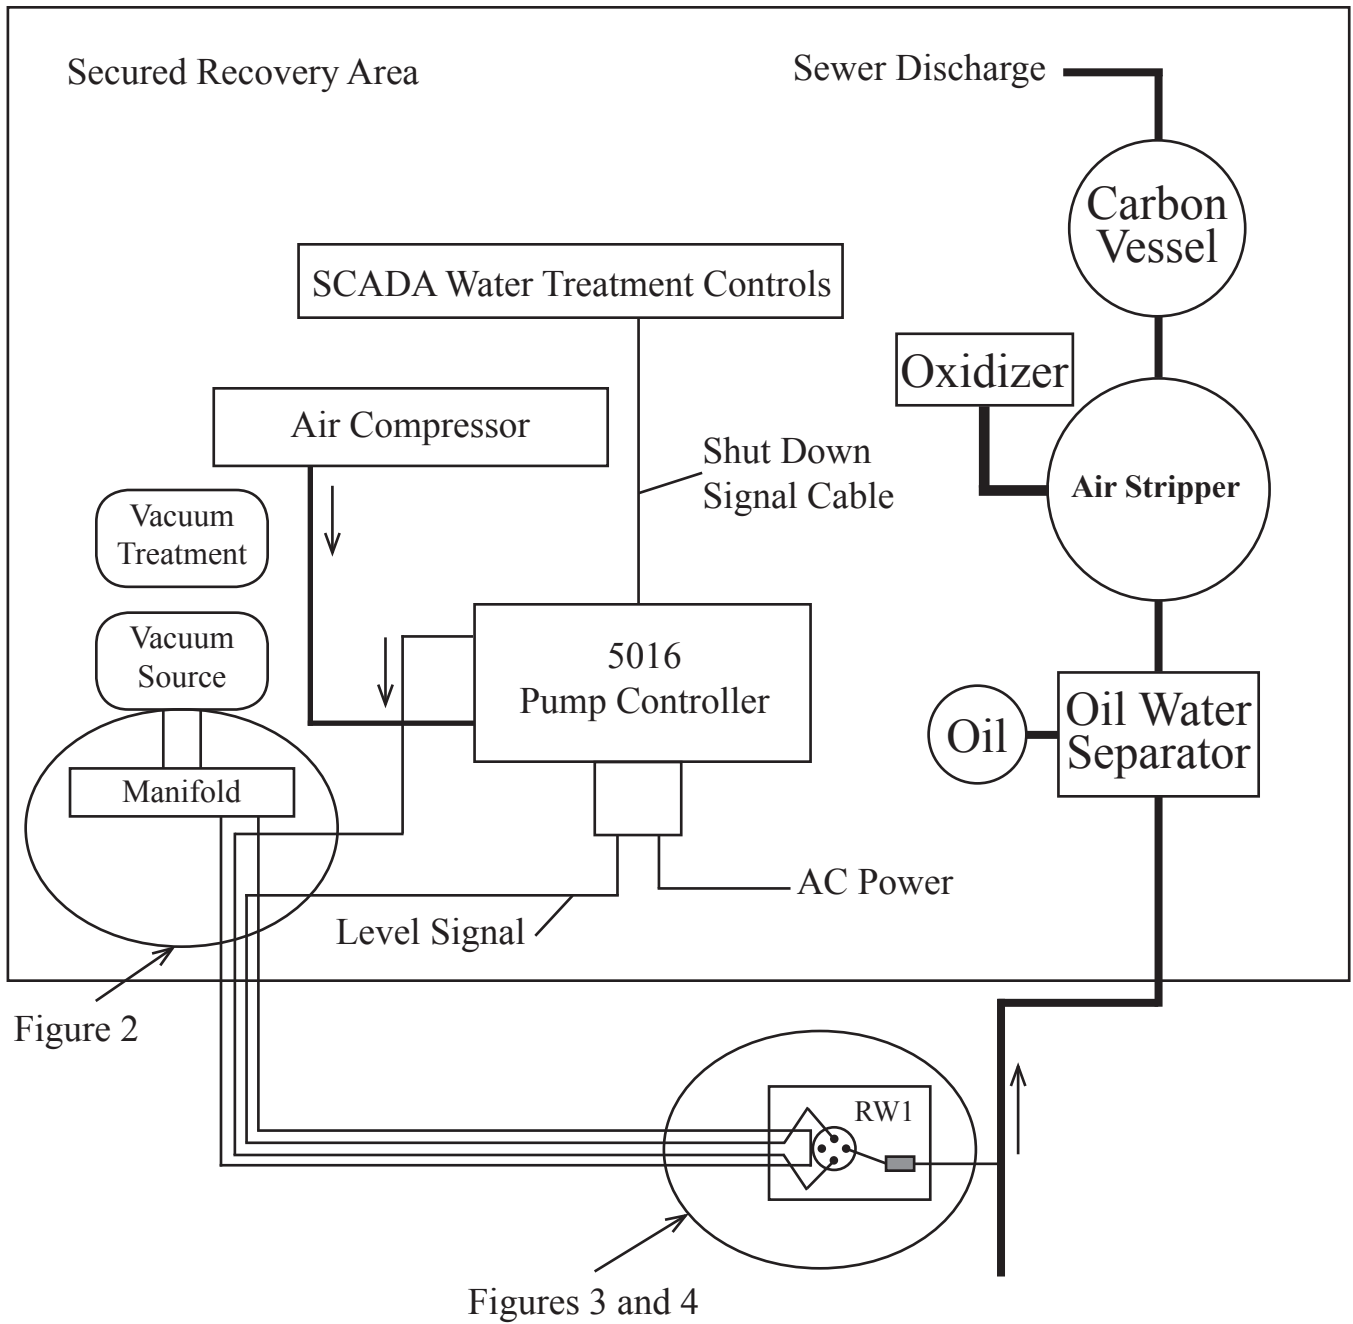
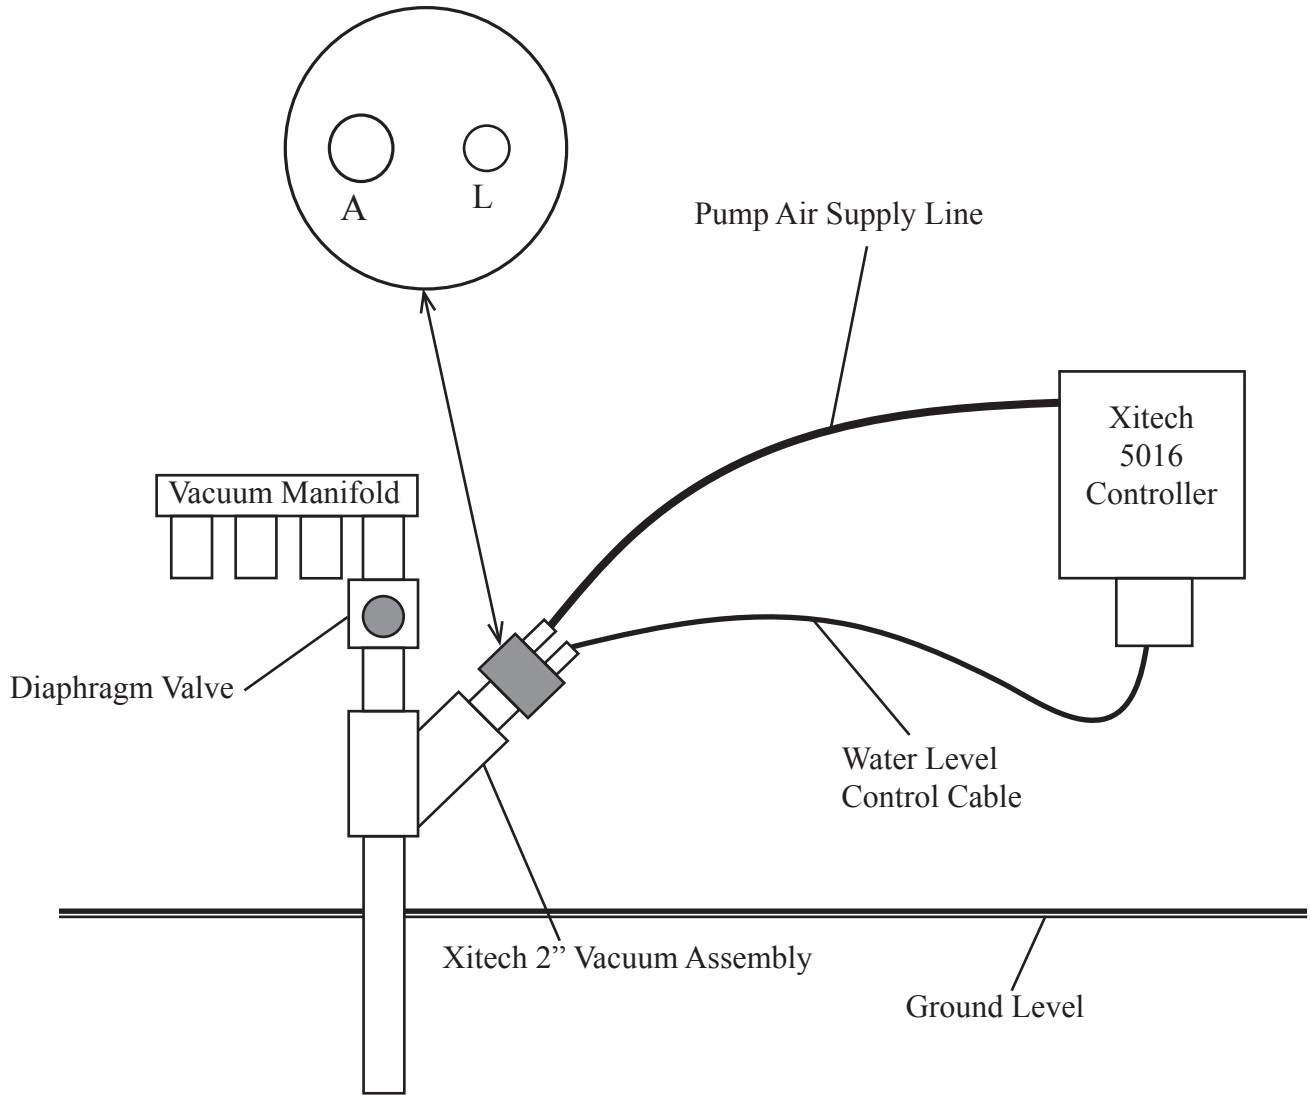
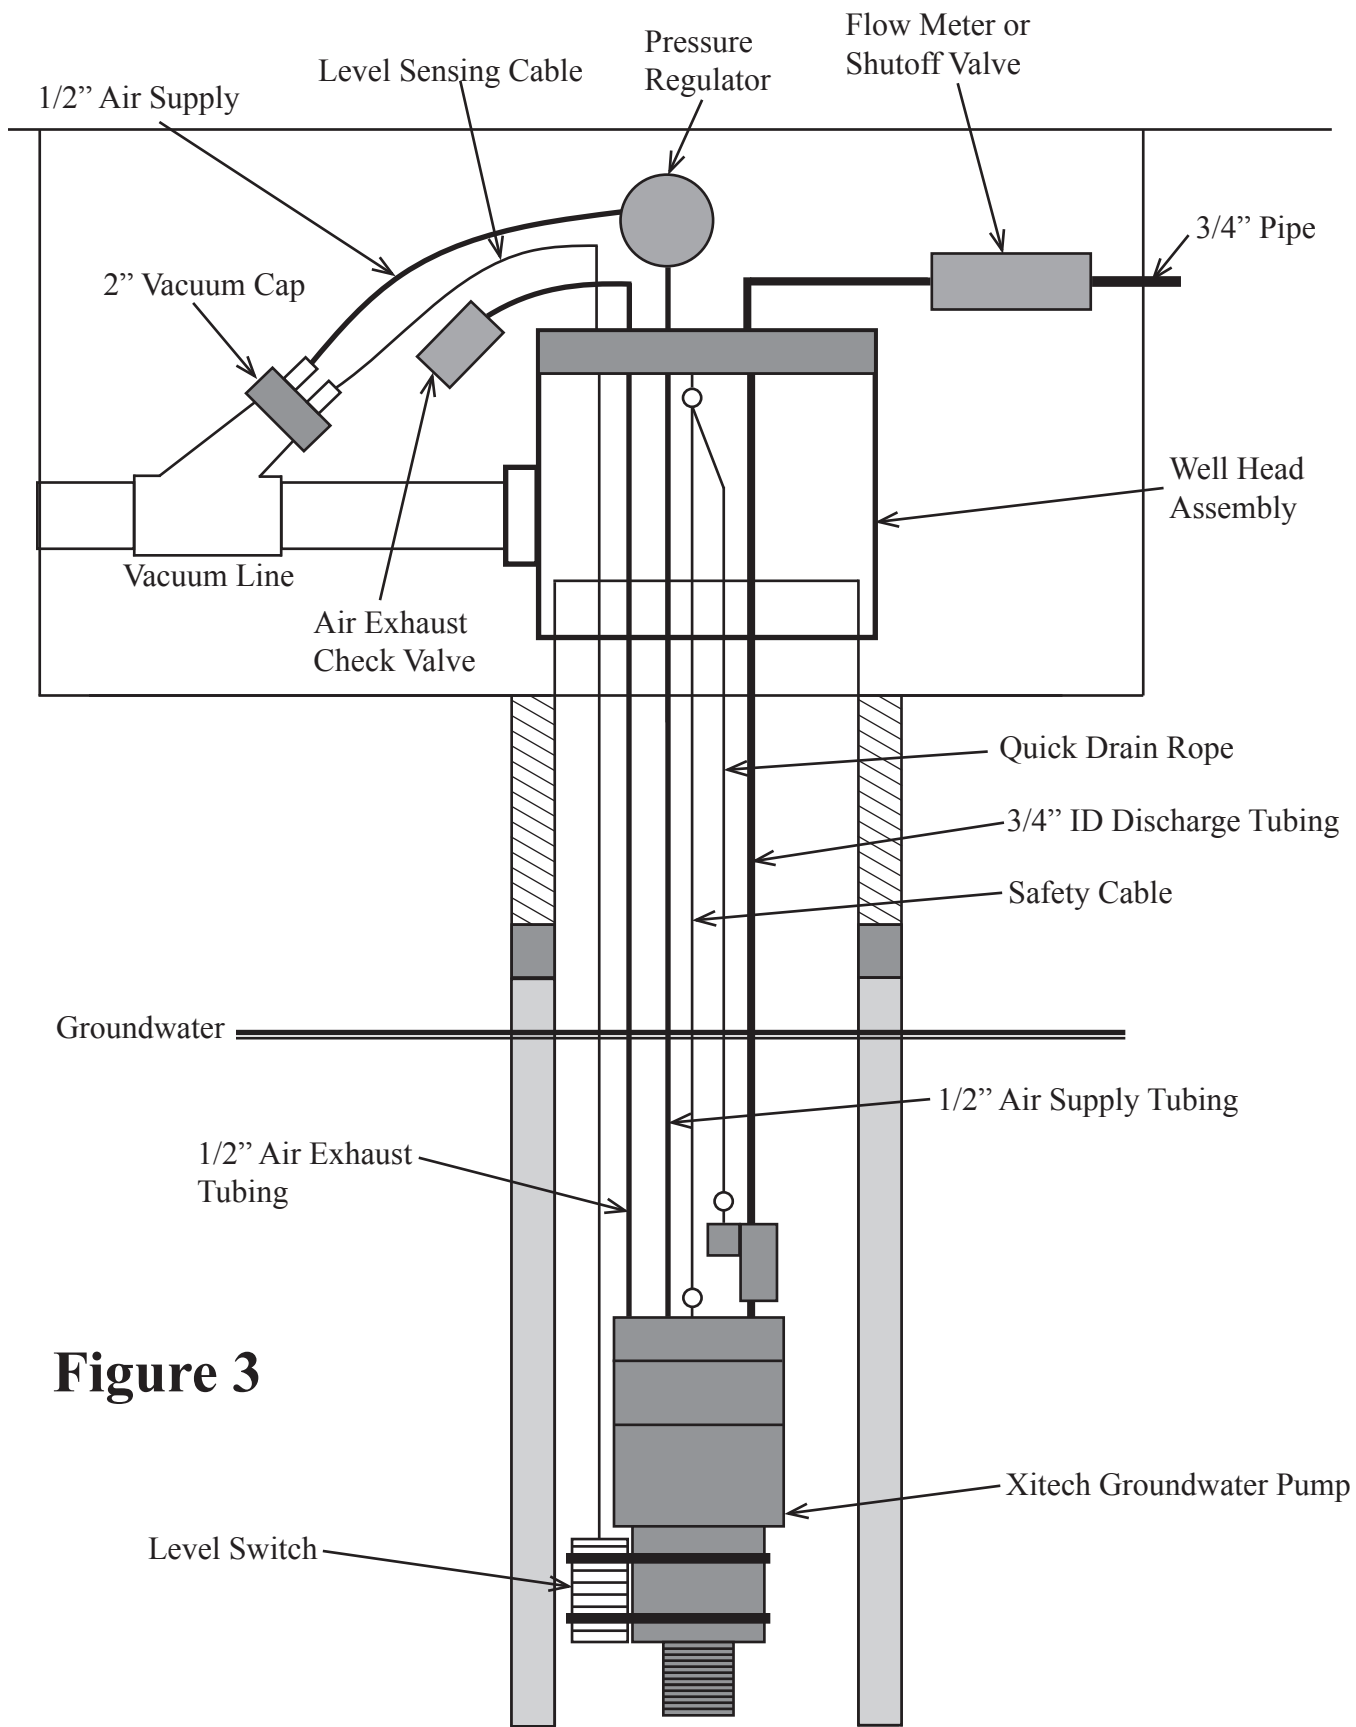
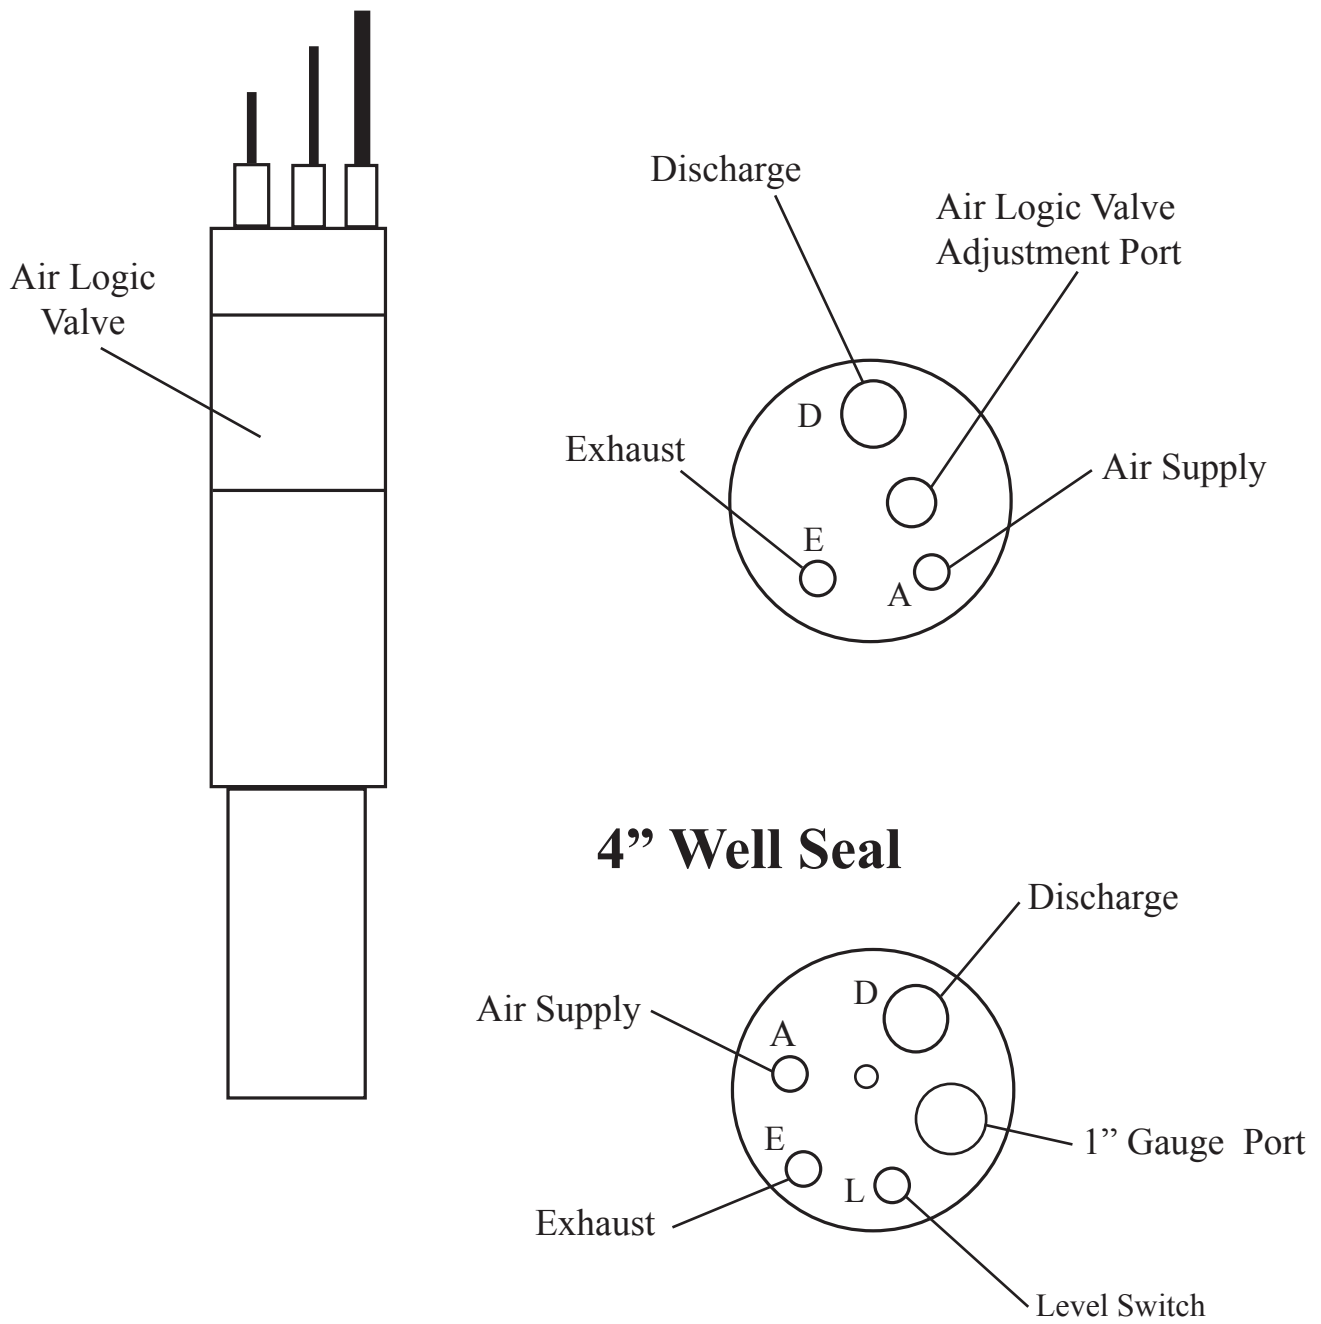

Figure 1
Figure 2
Figure 3
Figure 7
The Xitech Total Fluids Recovery system with vacuum (Figure 1) requires a four inch diameter well or greater. This system includes: an intrinsically safe Auto-Isolator 400 pneumatic Groundwater Pump (Figure 7) which removes groundwater down to 200 feet deep, a programmable Controller Model 5016 which controls up to 8 pumps, and a true interface level switch. The 5016 Controller provides central control of the groundwater pumps, displays several statuses, has individual automatic and manual pump control, shows individual run times for each groundwater pump, and can be controlled by a SCADA computer.
STEP 5. Install an air pressure regulator (Figure 3 or 4) in each well vault. Install a 1/2" OD air supply line from one of the outlets of the 5016 Controller, through the 2" vacuum cap (Figure 2) on the individual vacuum line inside the compound, through the 2" horizontal vacuum line running out to the well vault, through the 2" vacuum cap fitting labeled "A", and over to the inlet of the pressure regulator. **CAUTION:** Please be sure not to have any sharp 90 degree elbows in the 2" vacuum conduit run from the compound to the well vaults. Use 2" swept elbows or two 45 degree elbows, do not use 90 degree elbows.
STEP 6. Install the level switch wiring cable (Figure 2) from the 5016 Controller junction box out to each well vault inside the 2" vacuum line.
STEP 7. Install horizontal groundwater discharge piping lines $\frac{3}{4}$ " ID or greater to each of the well vaults. Attach a male $\frac{3}{4}$ " NPT pipe fitting onto the end of this line inside each well vault. Attach our $\frac{3}{4}$ " NPT 2-way shutoff valve or the outlet end of our $\frac{3}{4}$ " NPT flowtotalizer and shutoff valve assembly (Figure 3) onto the horizontal discharge piping in the well vault.
STEP 8. Place our groundwater pump and 4" well seal (Figure 7) on the ground near the well. Cut a length of $\frac{3}{4}$ " ID discharge hose to cover the distance from the top of the well down to the top of the pump. Attach one end of the discharge hose to the bottom side of the well seal in the port labeled "D" (Figure 7). Secure this end of the hose with a stainless steel hose clamp. Attach the other end of the discharge hose to the barb fitting on the top of the groundwater pump labeled "D". Secure this end of the hose with a stainless steel hose clamp.
STEP 10. Cut a length of $\frac{1}{2}$ " OD air supply tubing to cover the distance from the top of the well down to the top of the groundwater pump plus 5 feet. CAUTION: Please keep dirt from getting into this line! Slide the tubing through the top of the well seal fitting labeled "A" until 3 feet of tubing is sticking out of the top of the well seal. Attach the long end of the tubing to the top of the groundwater pump barb fitting labeled "A" (Figure 7). Secure this tubing to the barb fitting with a stainless steel hose clamp. Attach the other end of the air supply tubing to the outlet of the pressure regulator.
STEP 11. Cut another length of $\frac{1}{2}$ " OD air exhaust tubing same length as the air supply line. Slide the tubing through the top of the well seal fitting labeled "E" (Figure 7) until 3 feet of tubing is sticking out of the top of the well seal. Attach the long end of the tubing to the top of the groundwater pump barb fitting labeled "E" (Figure 7). Secure tubing to the barb fitting with a stainless steel hose clamp. Attach a $\frac{1}{2}$ " check valve to the other end of the air exhaust line sticking out of the top of the well seal.
STEP 13. Attach the water level switch assembly (Figures 3 and 4) to the bottom of the pump using two metal hose clamps. Slide the level switch cable through the bottom of the well seal fitting labeled “L” (Figure 7) until 5 feet of the level switch cable is sticking out of the top of the well seal. Slide the end of the level switch cable coming out of the top of the well seal through the 2” conduit cap fitting labeled “L” until 1 foot of the cable is sticking through the 2” conduit cap. Attach the wires from the level switch cable to the grey level switch wire cable in the horizontal 2” conduit.